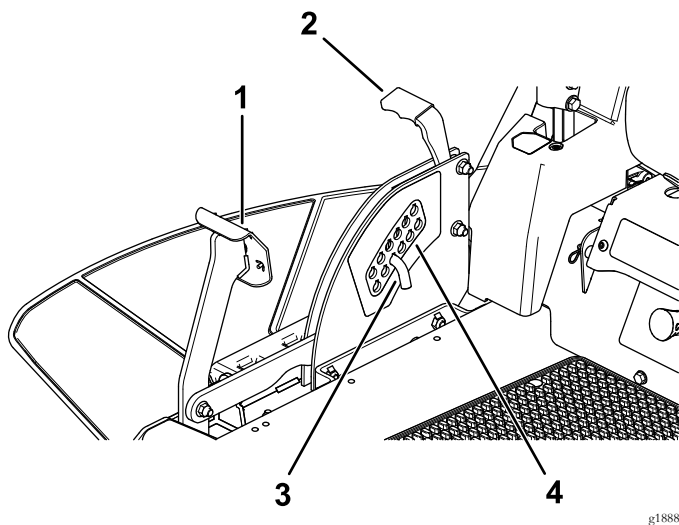

Figure 27
1. Push on the deck-lift pedal with your foot and raise the mower deck to the transport-lock position (also the 114 mm (4-1/2 inches) cutting height position) as shown in Figure 27.
2. To adjust, remove the pin from the height-of-cut bracket (Figure 27).
3. Select a hole in the height-of-cut system corresponding to the desired height of cut and insert the pin (Figure 27).